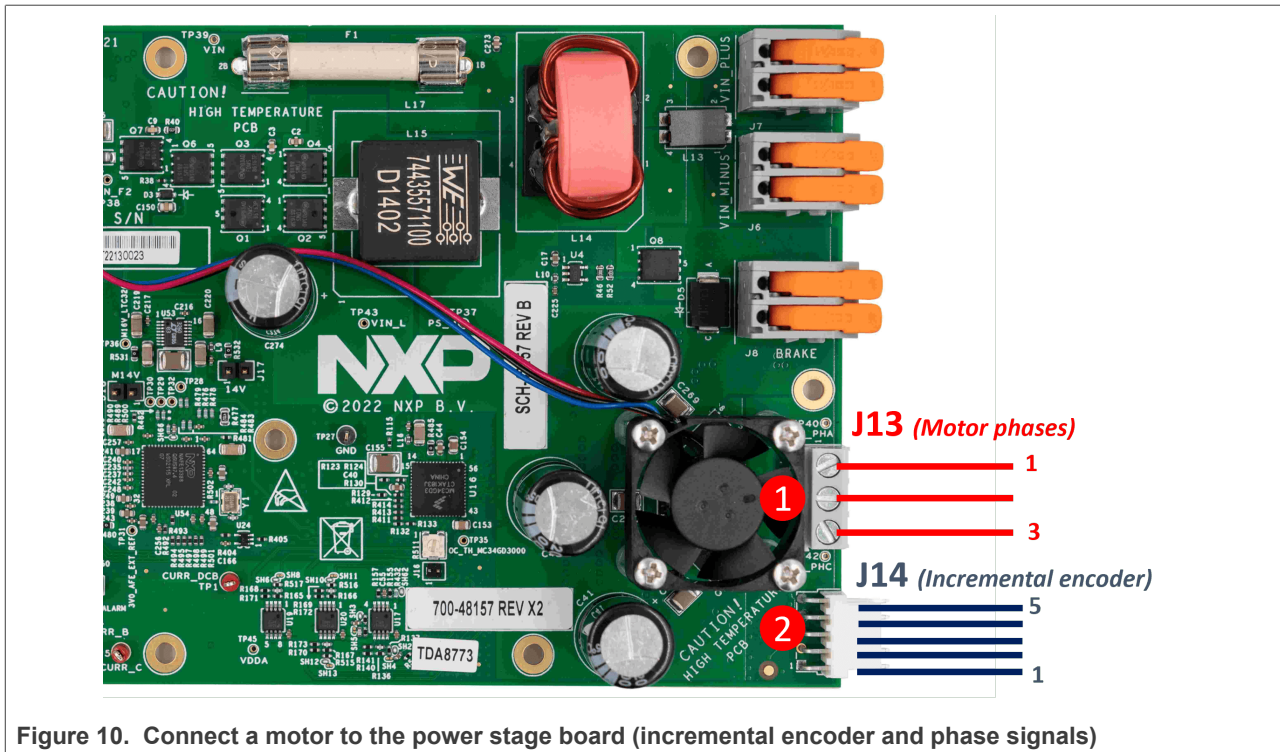

Figure 10. Connect a motor to the power stage board (incremental encoder and phase signals)
2. Connect the motors to the power stage boards as shown in Figure 10: